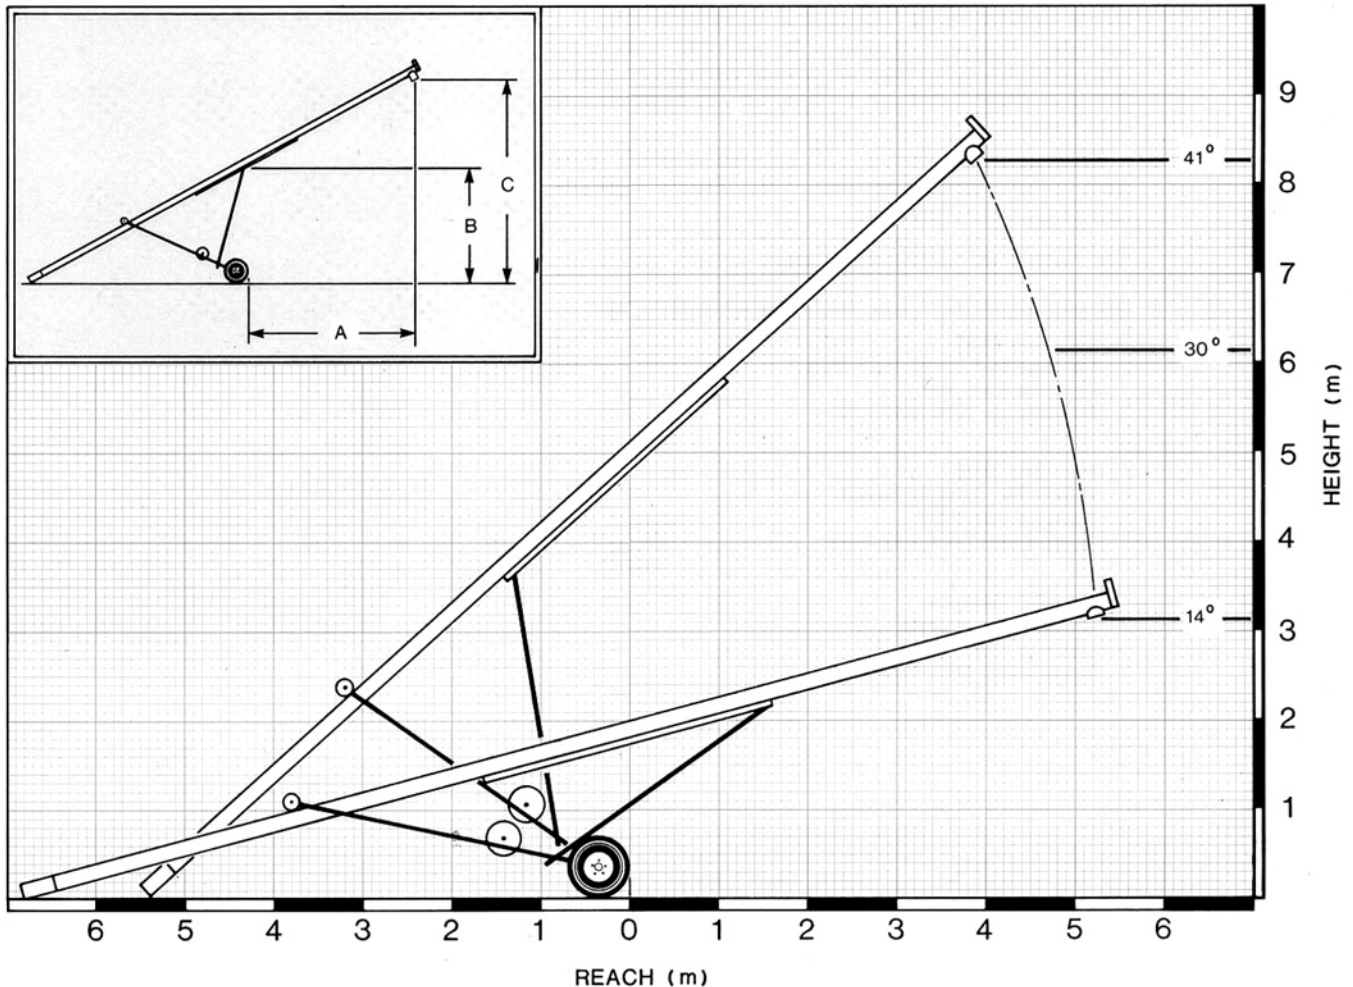

FIGURE 2. Reach and Clearance at Various Heights: (A) Reach, (B) Bin Eave Clearance, (C) Discharge Height.
**Auger Reach:** The bin eave clearance and horizontal reach of the Westfield W80-41 are shown in FIGURE 2. Bin eave clearance, measured from the ground to the foremost part of the undercarriage, varied from 3.7 m (12.1 ft) at 14° to 5.3 m (17.2 ft) at 41° elevation. The reach, measured from the foremost part of the undercarriage to the centre of the discharge, varied from 2.0 m (6.6 ft) at 14° to 3.6 m (11.7 ft) at 41° elevation.